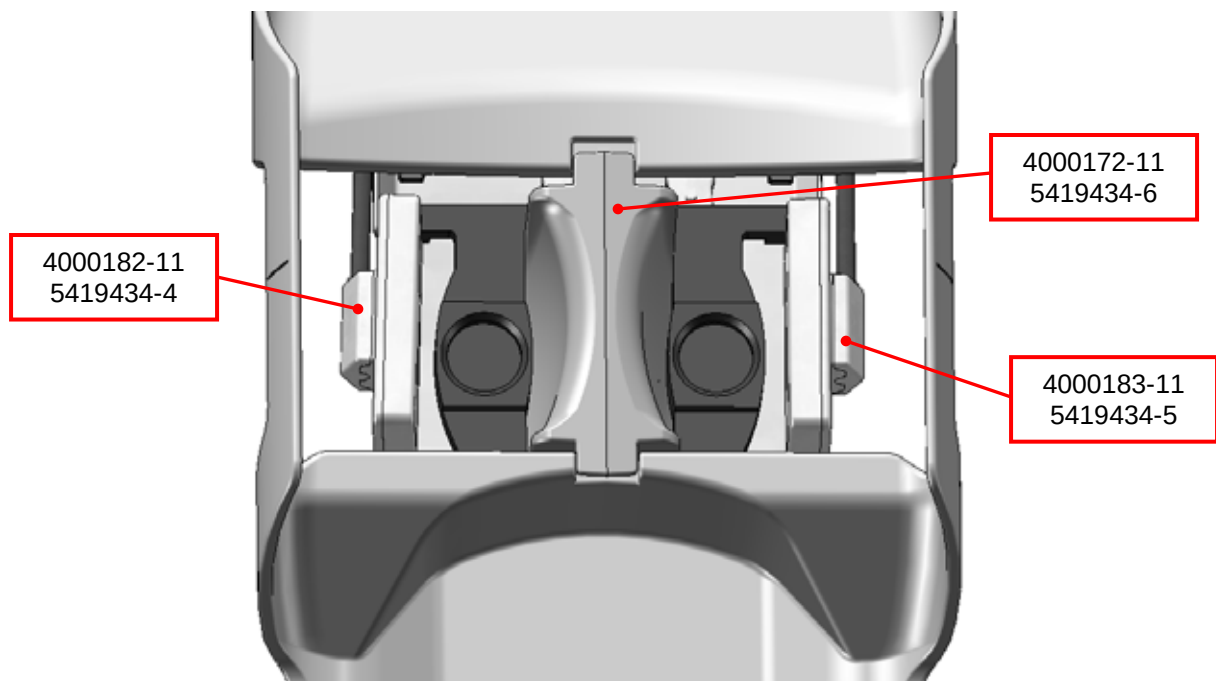

Figure 59: 8 Channel - Phantom Positioner Setup
3. Move the lateral coils to their furthest outward position and slide them to their highest upward position. Locate the phantom positioners on either side of the medial coil as shown in Figure 59.